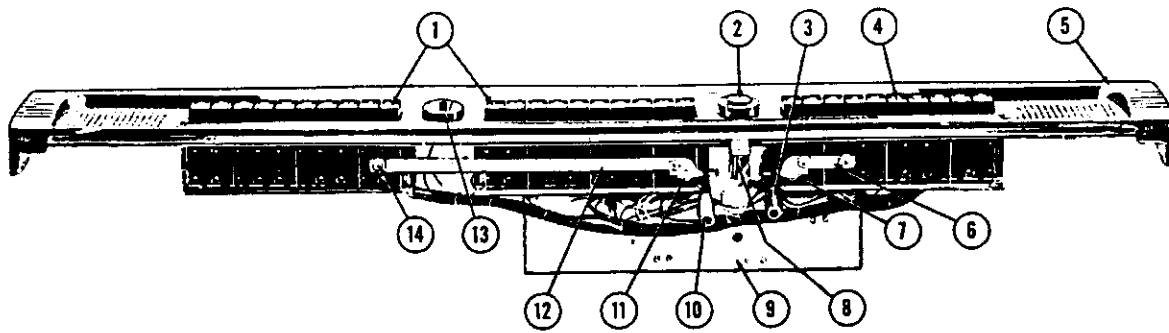

Fig. 4. SELECTOR SWITCH ASSEMBLY
a. It is essential that both the letter and number button switches, as well as their latch bars, separate without friction, from their maximum depressed position to their complete retracted position. The respective latch bars of these switches must engage freely with all of the switch "push rods" and retract freely when the switch push rods are released. The two letter switch latch bars are joined together by the connector link (Item 12, Fig. 4) and coupled to the "shaft, link, and lever" assembly (Item 10, Fig. 4). This coupling point is adjustable by means of the
"adjustment clip" (Item 11, Fig. 4). The adjustment should provide minimum play consistent with freedom of operation. The adjustment screw at item 14 is provided for synchronization of the movement of the two letter latch bars. The number latch bar is coupled to its "shaft, link, and lever" assembly in like manner and should be adjusted at the screw (Item 7, Fig. 4) as described above.